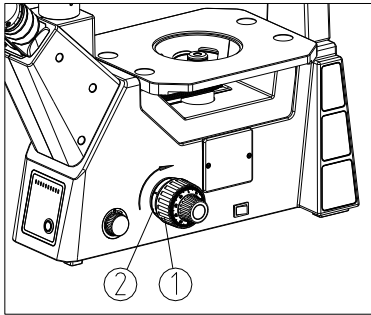

Fig. 2
(1) Rotate the coarse focusing knob (1) as the direction shown in the figure, until the nosepiece is in the low-limit location (See Fig.2).